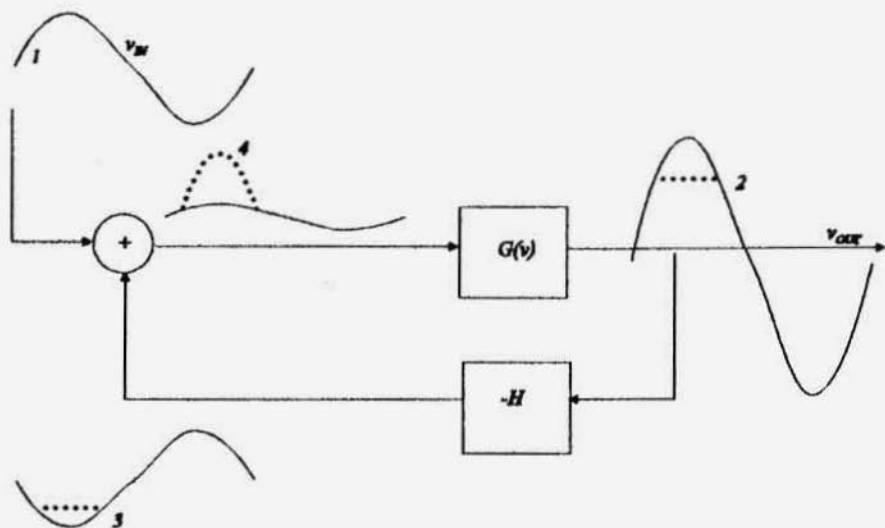

Figure 1. Automatic feedback correction of distortion
Figure 1 illustrates a basic feedback model. "G" represents the net voltage gain of the main system; "N" represents the voltage gain of the feedback. Note that the output of the system is subtracted from the input to achieve a closed loop. Mathematically in a linear system, the output depends on the input according to the following equation:
Figure 1 illustrates how feedback reduces distortion. If, for example, the output tends to saturate on a positive peak (refer to point 2), then the output positive amplitude does not go as high as it should. When this part of the wave is subtracted from the input (1), a correction signal is created in the differ-